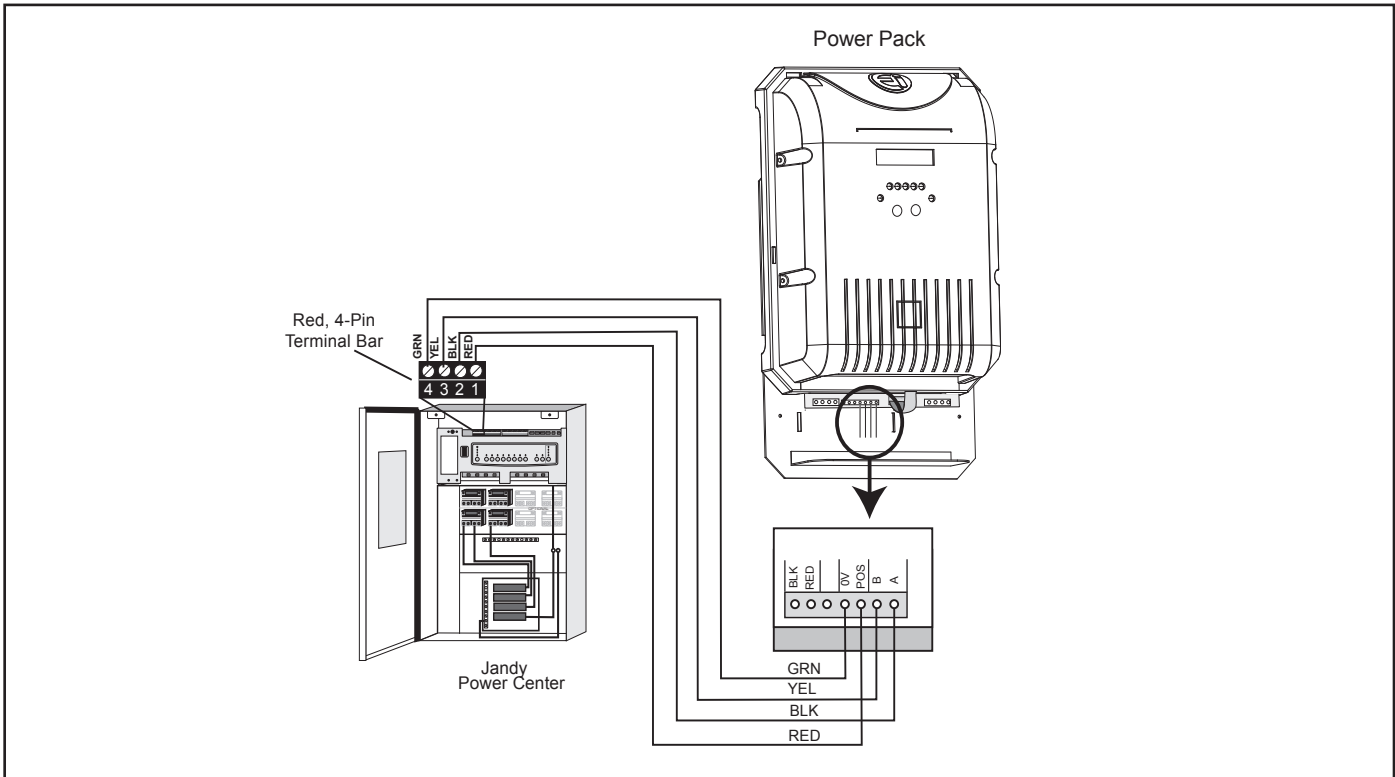

Figure 21. Communication Wiring between Power Pack and AquaLink RS Control System or PDA Network
7. The Jandy® AquaLink® RS or PDA and power pack use a four (4) wire connection to communicate and can be wired up to 152.4 m (500 ft) apart. Any outdoor rated four conductor cable, minimum 0.33 mm² (22 AWG), can be used. Locate the appropriate screw terminals on the circuit board and wire the power pack to the AquaLink RS or PDA red 4-pin terminal bar (see Figure 21).